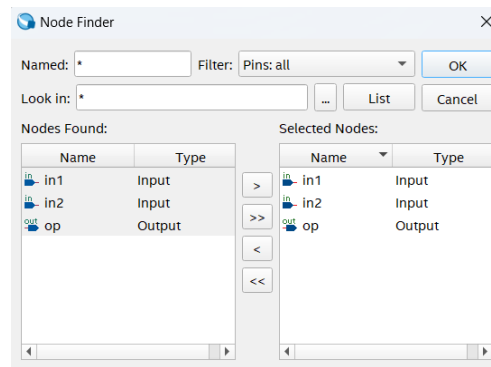

Figure 17 - Specification of input and output signals to be used in the simulation.
10. After pressing “OK” the next window should open, where the signals to be used in the simulation should be indicated (Figure 17).
11. Through the “Edit→Insert→Insert Node or Bus” menu, then pressing the “Node Finder” and “List” buttons, select all input and output ports of the circuit, then press “Ok” (Figures 17 and 18).